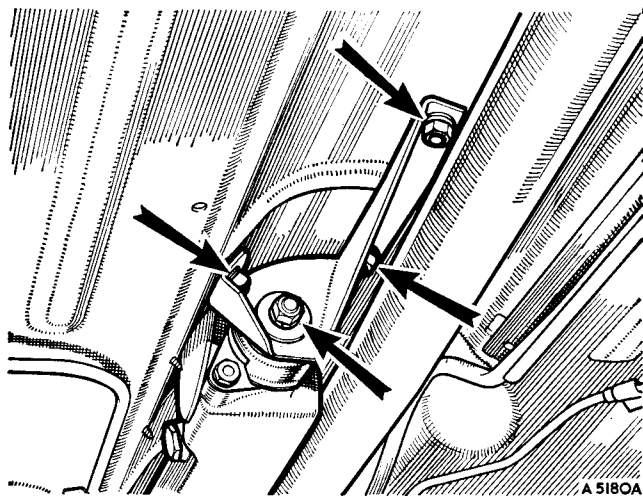

Fig. A.12
- (1) Carry out the instructions (1) to (9) and (16) in Section A.12.
- (2) Remove the fresh-air motor (when fitted).
- (3) Disconnect the oil gauge pipe.
- (4) Take off the distributor cap.
- (5) Remove the carburetters and air cleaners (Sections A.1 and A.2).
- (6) Remove the exhaust pipe assembly (Section A.3).
- (7) Remove the three bolts securing the rear extension mounting to the floor (Fig. A.12).